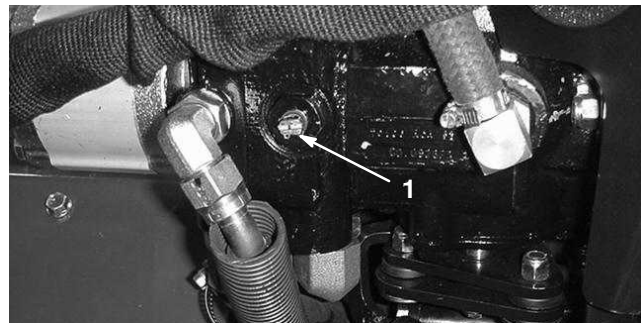

Figure 33
1. Locate the bypass valve on the pump (Fig. 33) and rotate it 90° (the bypass valve lever should be horizontal when it is open).